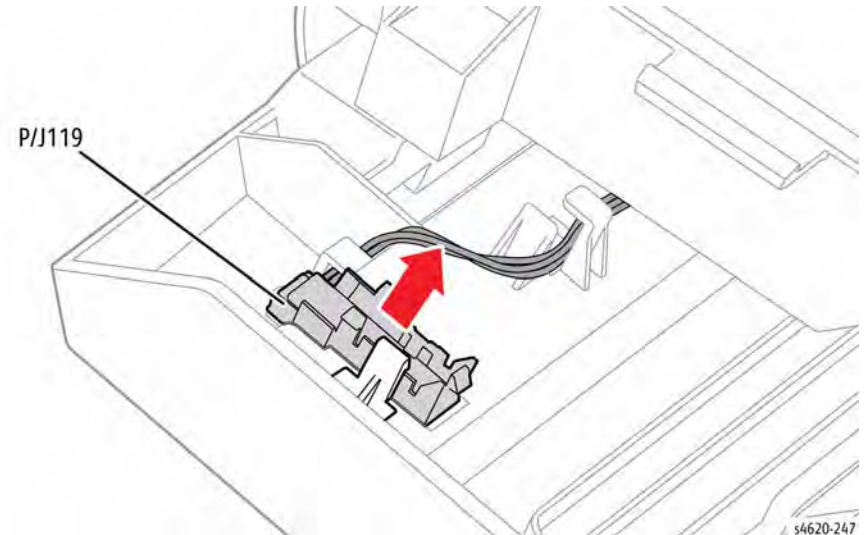

Figure 1 Remove the Right Tamper Home Position Sensor
3. Release the hook and disconnect P/J119 to remove the sensor., Figure 1.